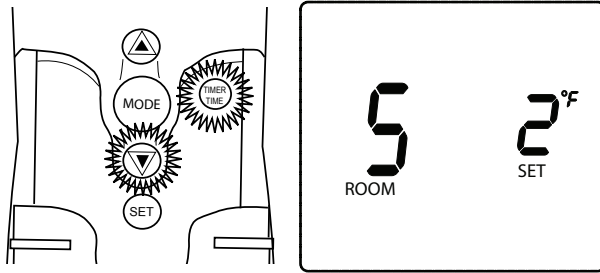

Fig. 18. Setting Swing Temperature
1. To change the temperature “SWING” setting (1-3), press the TIMER/TIME and DOWN buttons simultaneously (Fig. 18) to display the current “SWING” setting in the SET TEMP frame. The letter “S” will display in the ROOM TEMP frame on the LCD screen.